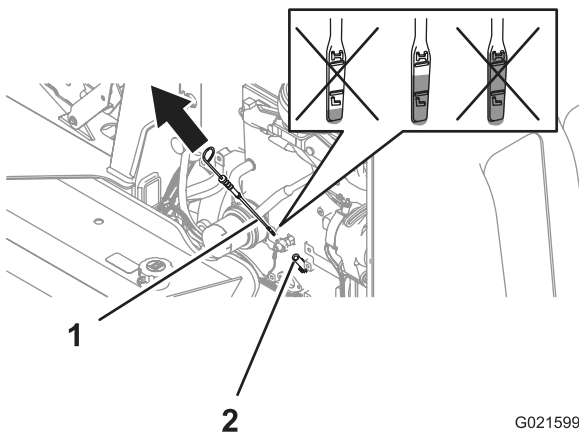

Figure 41
4. Remove the dipstick and wipe clean it with a clean cloth (Figure 41).
5. Insert the dipstick into the dipstick tube, pull the dipstick out again, and read the oil level on the dipstick (Figure 41).